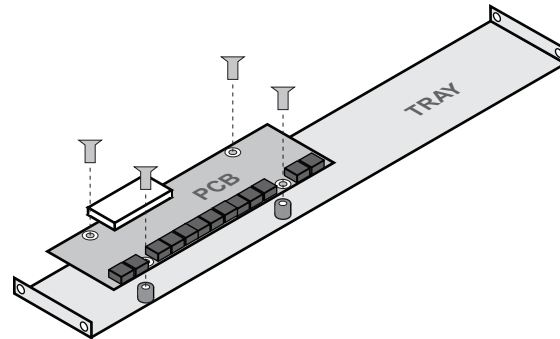

Figure 13.1 Installing the Breakout PCB on the Rack Tray
1. Position the Breakout PCB atop the screw posts on the tray. Refer to **Figure 13.1**.